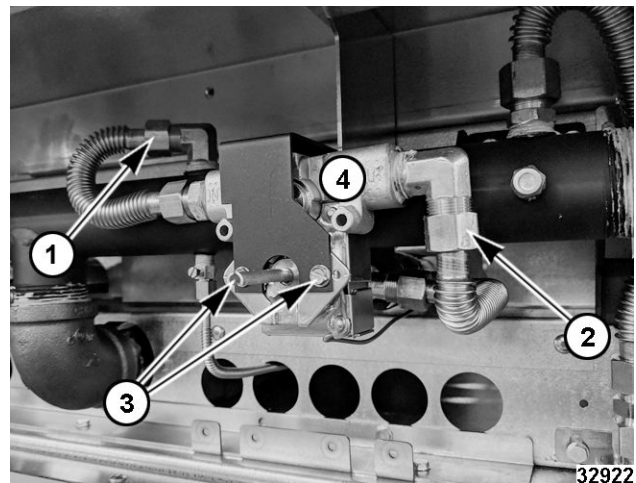

Fig. 100
6. Loosen inlet (1, Fig. 100) and outlet (2, Fig. 100) compression nuts.
7. Remove mounting screw (3, Fig. 100).
- Remove thermostat body and capillary tube assembly (4, Fig. 100).